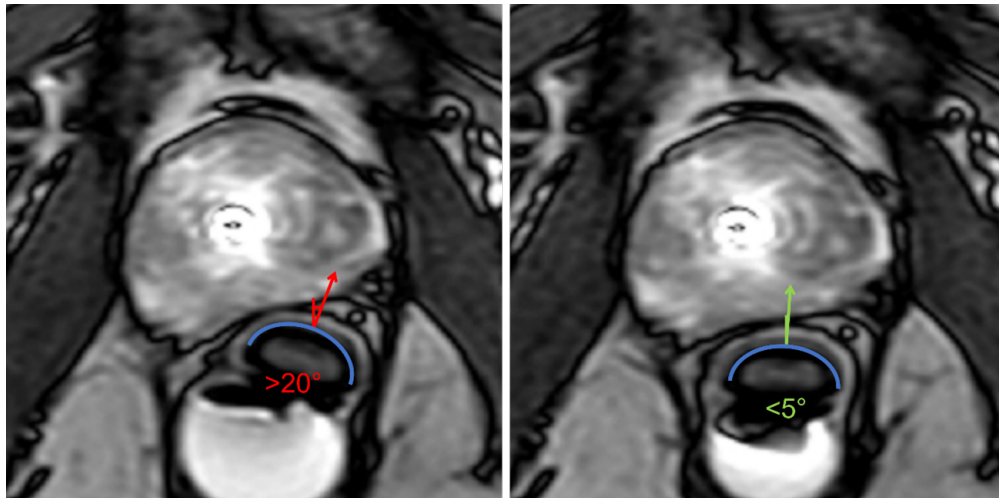

Figure 32: Axial images depicting ECD oriented incorrectly (left, rotated more than 20 degrees) and correctly (right, facing up towards the prostate)
- b. The orientation of the cooling window should face the prostate (anterior), as confirmed on the axial MRI (Figure 32). Check that the ECD cooling window is adjacent to and facing the prostate, with the handle-neck joint of the ECD at the anal verge and the raised, tactile ridge on the ECD handle facing anteriorly.